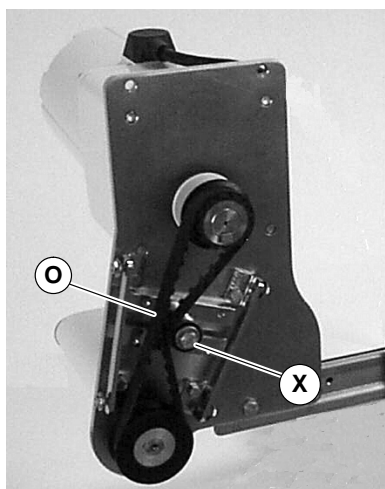

Figure 14
2. Loosen tensioner (X of Figures 14).